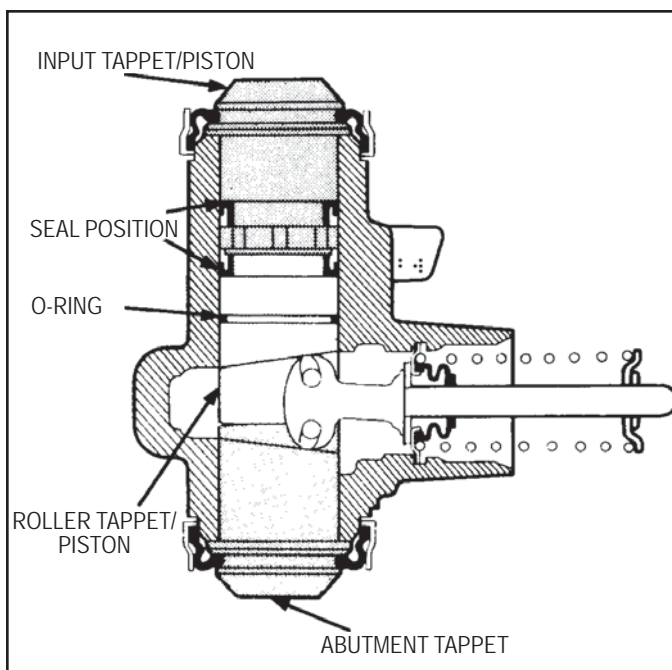

FIGURE 20 - EXPANDER WEDGE
6. Smear the o-ring with the grease supplied and fit onto the roller tappet/piston. Lubricate the piston seal with new DOT 4 brake fluid and install the seal as shown in *Figure 20*, with the lip of the seal facing outward toward
7. Fit the dust boot to the input tappet/piston, lubricate the piston seal with new DOT 4 brake fluid and install the seal onto the piston with the lip facing inward, *Figure 20*. Grease the inside of the dust boot with the grease supplied and install the input tappet/piston assembly into the housing bore until it rests on the roller tappet/piston. Fit the dust boot to the end of the housing.